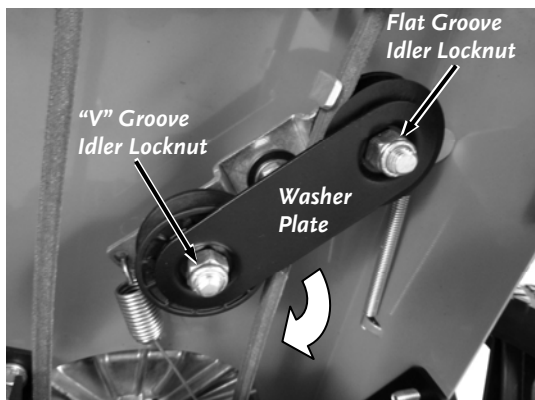

Figure 30
5. Remove the Locknut that secures the Washer Plate to flat groove Idler Pulley using a 9/16" Wrench. Loosen the other Locknut to the V groove Idler Pulley using a 9/16" Wrench just enough so the Washer Plate can be rotated out of the way (Figure 30).
12. Rotate the Washer Plate onto the Flat Groove Idler Stud and install the Locknut using a 9/16" Wrench (**Figure 30**). Tighten the "V" Groove Idler Locknut using a 9/16" Wrench.